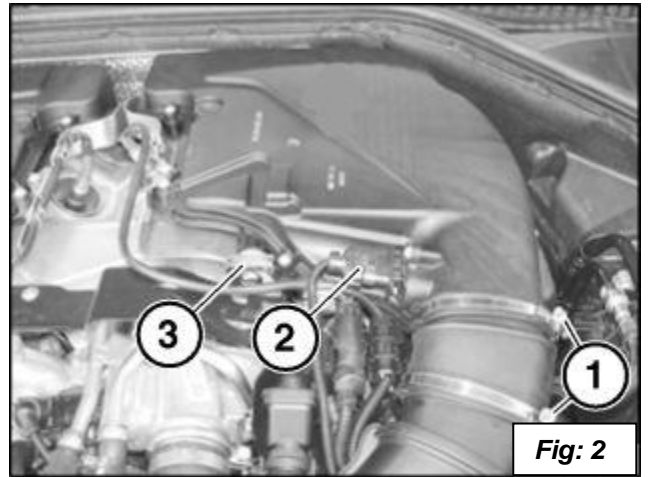
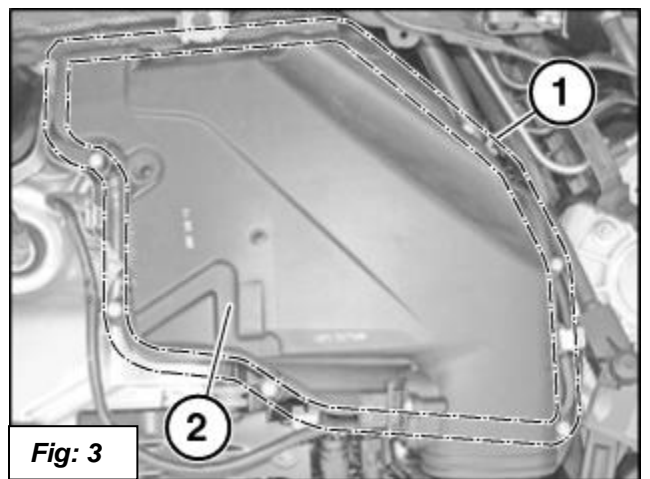

Fig: 2
Fig: 3
2. Remove the air box lids. Loosen clamps (1) and slide hose forward off of air box. Disconnect the wire to the air mass meter (2). You can leave the clamp (3) connected. See figure 2. Remove the 8 screws along line (1) and remove lid (2). See figure 3.